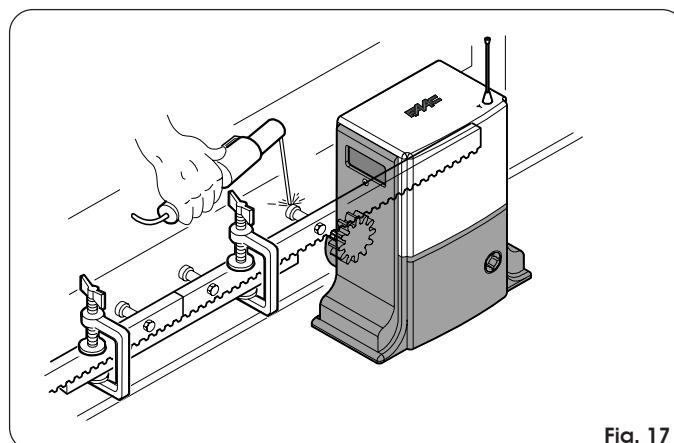

Fig. 17
- 5) Bring another rack element near to the previous one, using a piece of rack (as shown in Fig. 17) to synchronise the teeth of the two elements.
- 4) Bring another rack element near to the previous one, using a piece of rack (as shown in Fig. 17) to synchronise the teeth of the two elements.